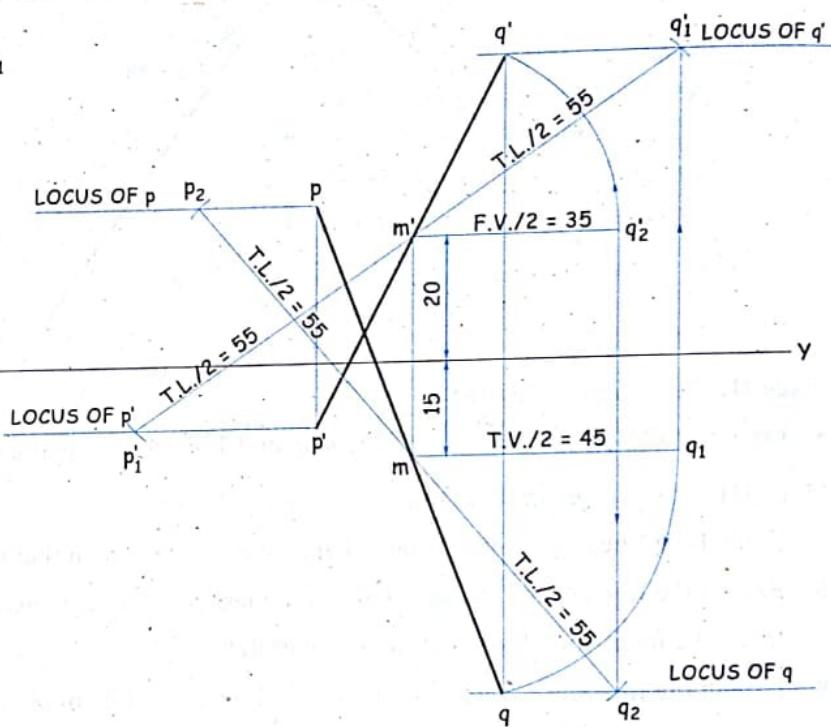

FIG. 8.32 (b)
**Stage I :** Refer figure 8.32 (a).